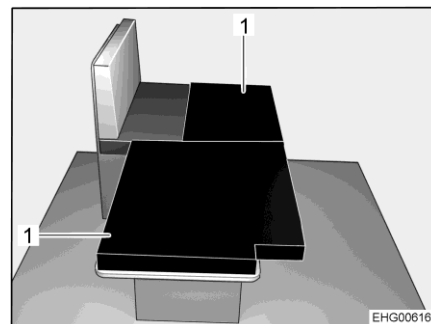

Fig. 63 After conversion
- Place the two additional cushions (Fig. 63,1) on the lowered table as shown in the image.